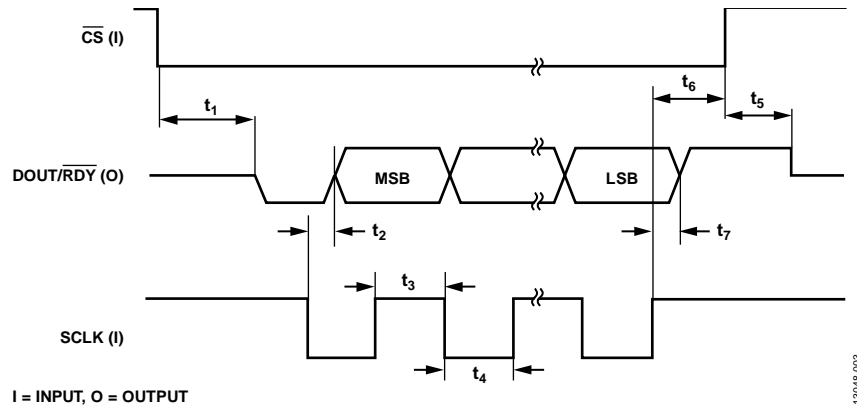
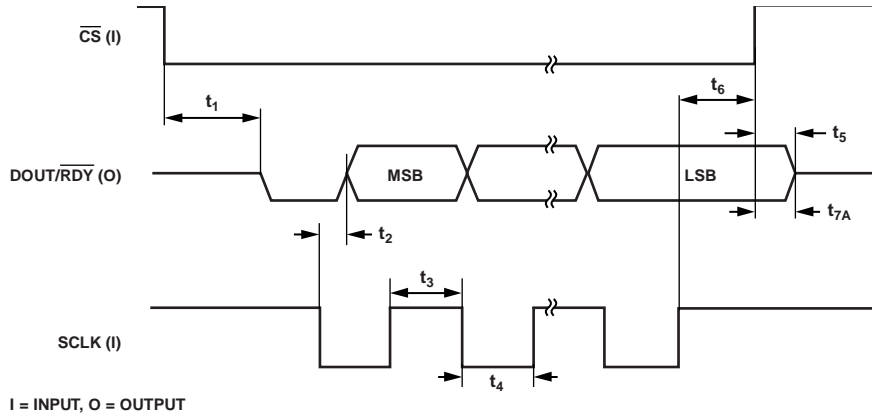
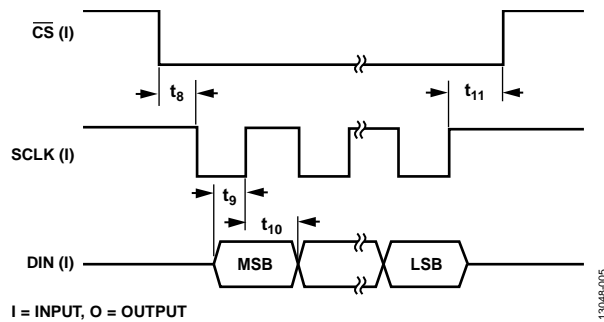
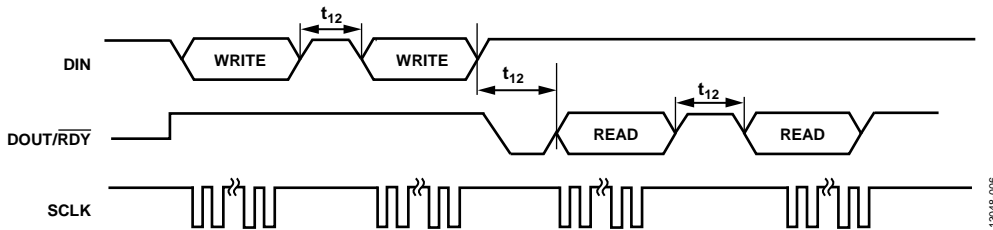

Figure 3. Read Cycle Timing Diagram ($\overline{CS_EN}$ Bit Cleared)
Figure 4. Read Cycle Timing Diagram ($\overline{CS_EN}$ Bit Set)
Figure 5. Write Cycle Timing Diagram
Figure 6. Delay Between Consecutive Serial Operations
- ² See Figure 3, Figure 4, Figure 5, and Figure 6.